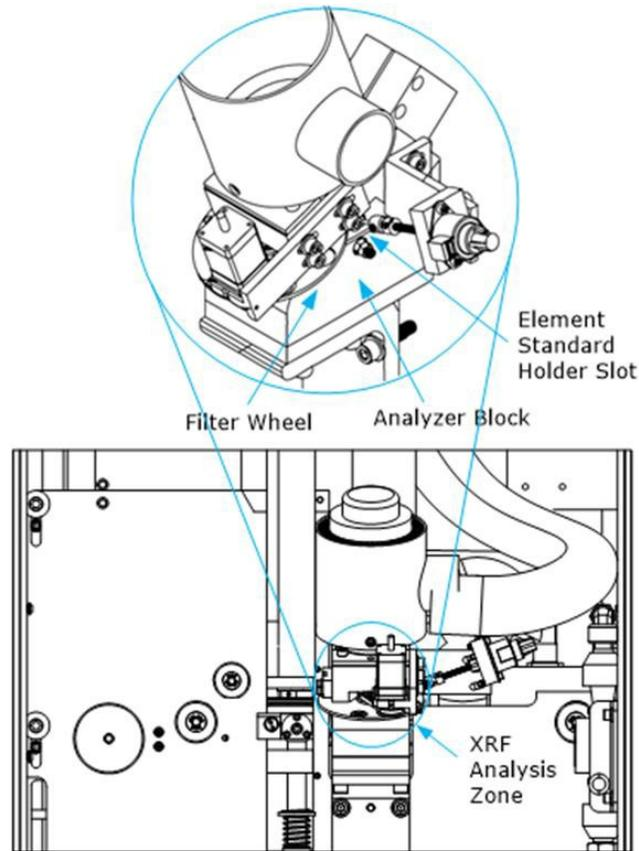

Figure 10.9 Element Standard Placement
- 10.6.9 Place the element standard holder in the slot under the filter wheel in the analysis zone (**Figure 10.9**). The element standard holder takes the place of the filter tape in the analysis block. Be sure to place the element standard holder as far into the analysis zone as possible.